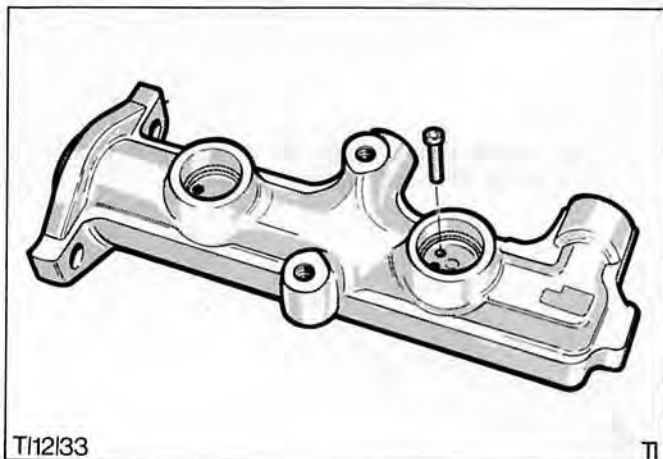

Fig.50. Remove secondary piston stop pin.
3. Depress piston assemblies and remove secondary stop pin, Fig.50.